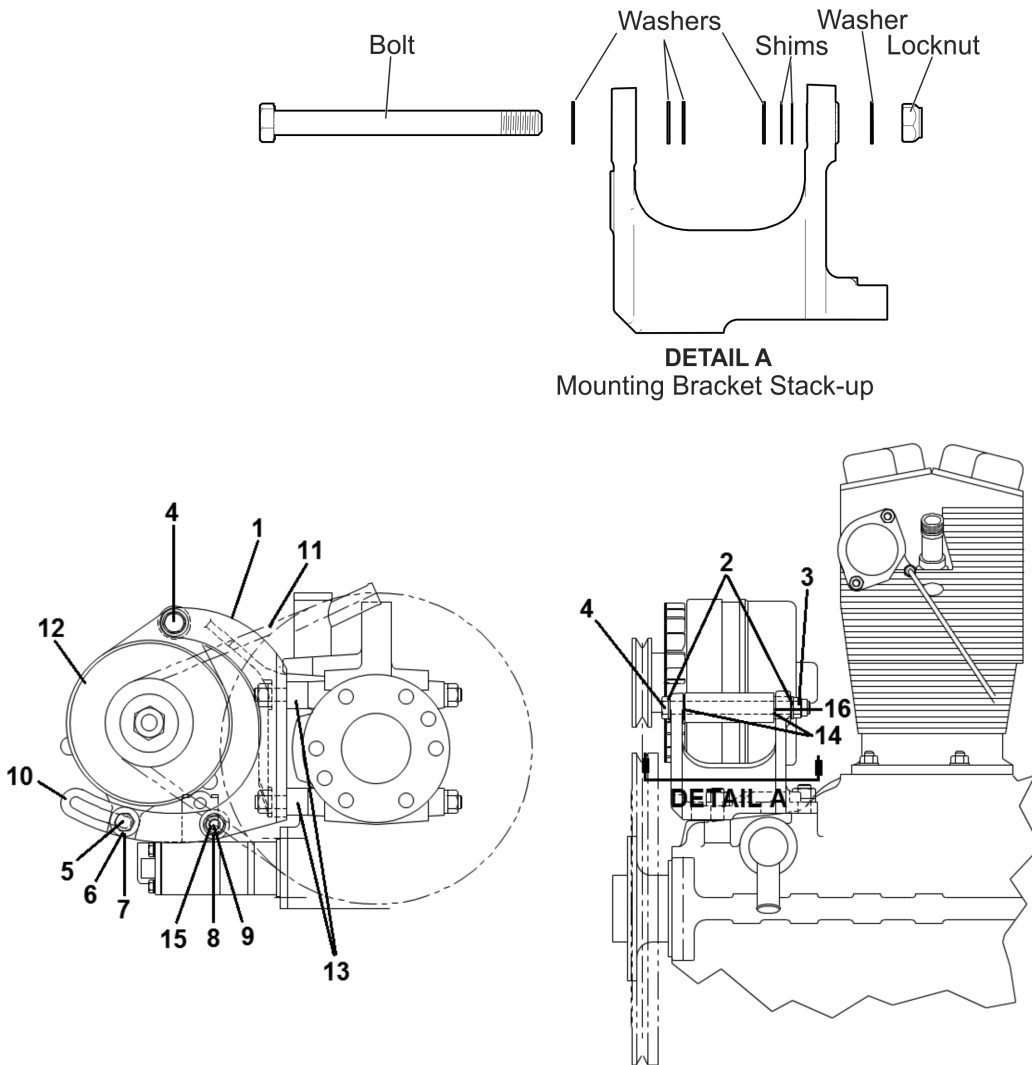

Figure 2. Front Mounted Alternator Assembly
CAUTION: Inserting an incorrect combination of washers or shims (Figure 2, items 14 and 16) at the upper mounting location of the bracket, may hinder the proper alignment of the alternator sheave and drive sheave.
1. Install the alternator (12) on the mounting bracket with the bolt (4) and new washers (2 & 14), shims (16) and locknut (3).
2. Align the adjustable brace (Figure 2) (10) bolt hole with the alternator outboard mounting hole. Loosely install the bolt (5) and the new lock washer (6) and washer (7) through the hole in the adjustable brace (10) into the alternator outboard mounting hole.
- b. If the pulley alignment tool indicates the sheaves are misaligned, remove the bolt (Figure 2) (4), washers (2 & 14), shims (16), and lock nut (3) from the alternator and bracket assembly (1) and use additional shims (16), as required, to fill the gap between the alternator and bracket assembly. When proper alignment between the two sheaves is achieved, proceed to next step.
- c. With bolt (4) loose, fill any remaining void between the washer (Figure 2) (14) and the pressed bushing larger than 0.010 with shims (16) as needed.